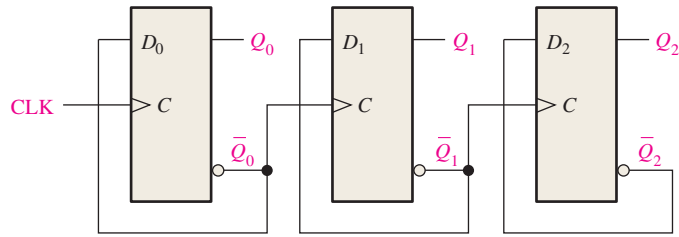

FIGURE 9-66
4. For the ripple counter in Figure 9-66, show the complete timing diagram for sixteen clock pulses. Show the clock, Q_0 , Q_1 , and Q_2 waveforms.